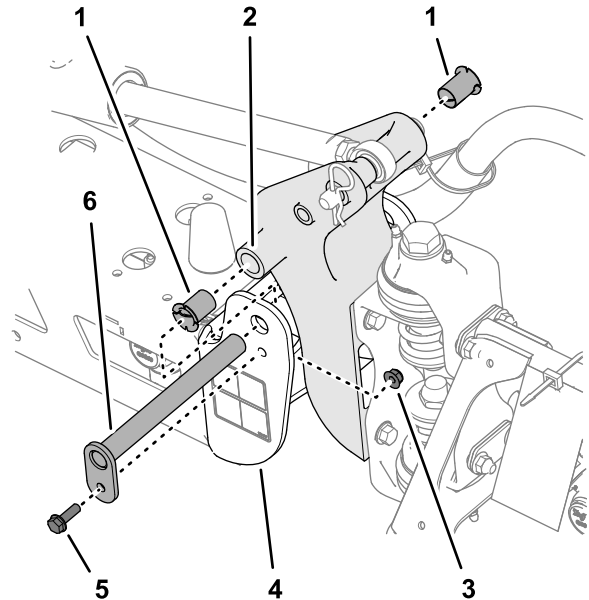

Figure 121
- Remove the bolt and nut that secure the pivot pin, and remove the pin (Figure 121).
- Remove and inspect the nylon bushings from the front and back sides of the pivot bracket (Figure 121).
- Lubricate the nylon bushings with a small amount of oil, and install the bushings into the pivot bracket (Figure 121).
- Align the holes in the pivot bracket with the holes in the end channel (Figure 121).